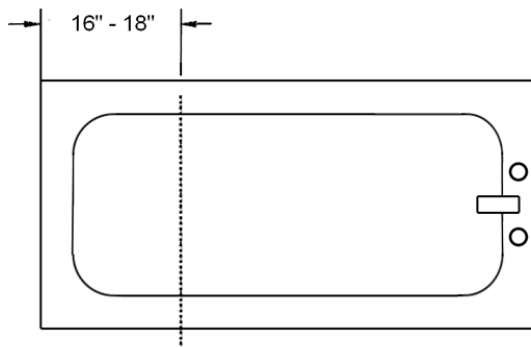
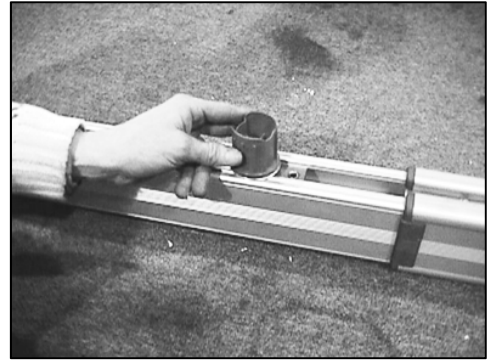

Figure 9
Figure 10
- Slide the plastic post base so that it is approximately 16 - 18" from the end of the tub (see Figure 9 and Figure 10).